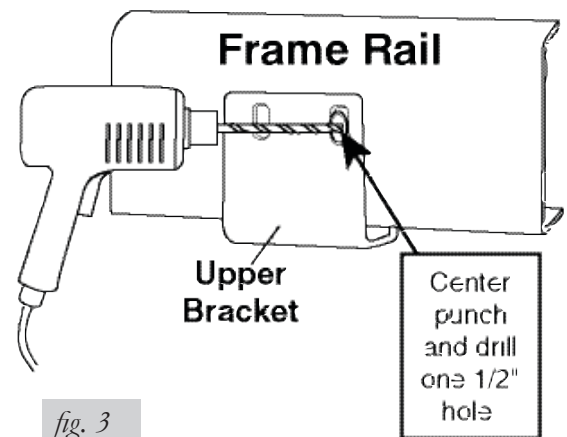

fig. 3
- Put the upper bracket into position on the frame rail and drill one 1/2" hole in the side of the frame rail (Figure 3).